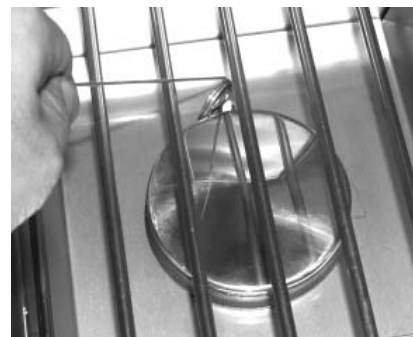

Fig. 17-2 - Manual lighting
2. Insert either a burning long-barrel butane lighter, a burning long-stem match, or a burning match held by a wire extension holder through the cooking grid opening to the burner (Fig. 17-2). Hold the flame against the edge of the burner.
4. If the burner does not light within five (5) seconds of turning the control knob, **immediately depress the knob and turn the valve to OFF**. **WAIT FIVE (5) MINUTES** before repeating steps 2 through 4 of the MANUAL LIGHTING instructions.